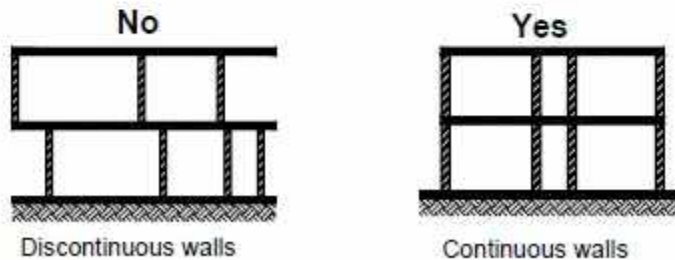

Figure 33. Continuity of walls between storeys (vertical sections shown).
5) The walls should always be placed continuously, directly over one another. Figure 33 (left) shows walls that are offset, while Figure 33 (right) shows vertically continuous walls.